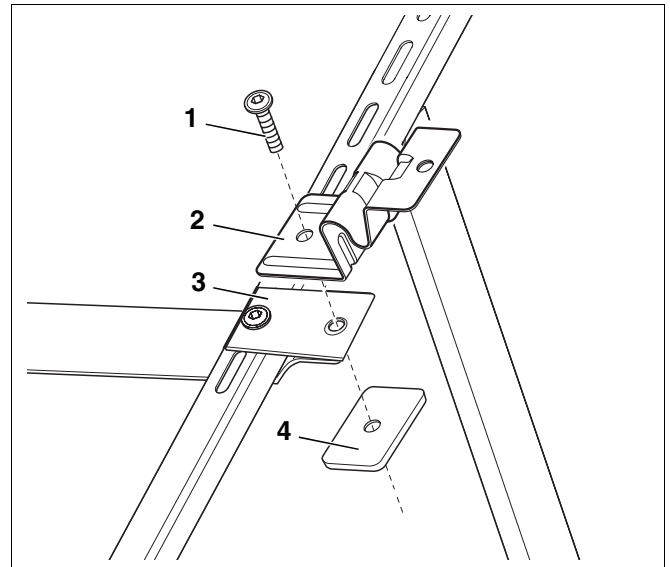

Fig. 29 Securing the collector holder flush with the profile rails
- Secure the lateral collector holder (Fig. 29, **Item 2**) and the auxiliary straps (Fig. 29, **Item 3**) using the threaded plates (Fig. 29, **Item 4**).